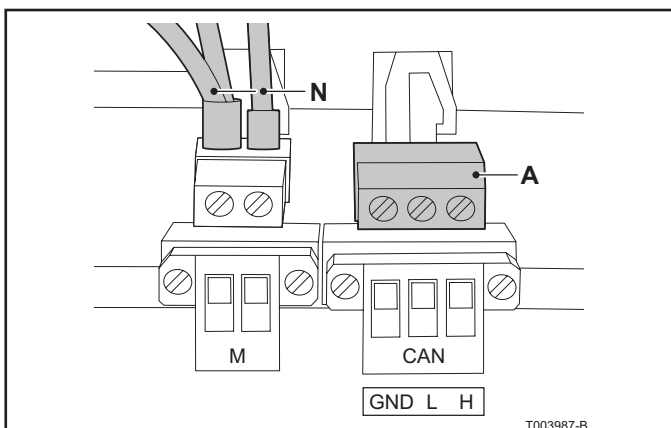

Fig. 28 CAN-bus cable connection on the GEP (front view of the DIN rail)
9. Connect the three coloured wires in accordance with the colour code in Table 07 to the three terminals H, L and GND for the 3-pole connector (see A in Fig. 28).